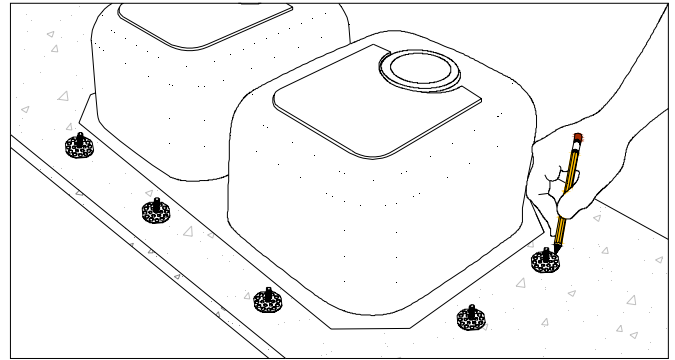

Figure 6A
- Locate sink clip bases around perimeter of sink flange and mark location with pencil. (FIG. 6A)